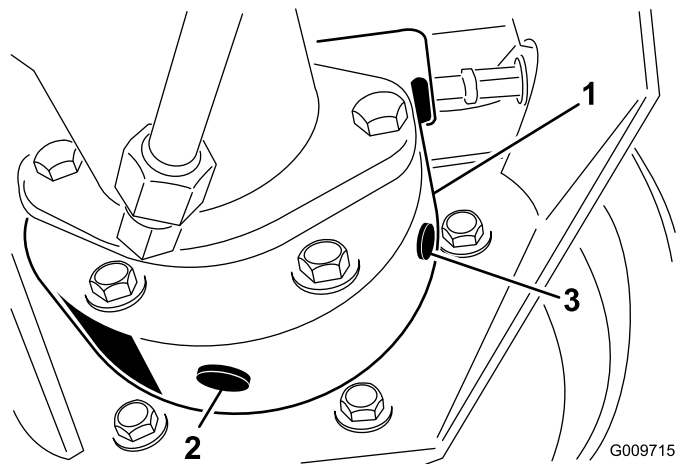

Figure 45
- Place another drain pan under the brake housing on the other side of the wheel (Figure 45).